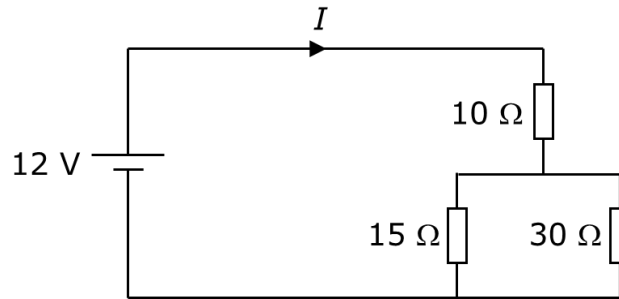

Fig. Q.1
1. Calculate the equivalent resistance of the resistance network shown in Fig. Q.1 and the power dissipated in the network. [4]